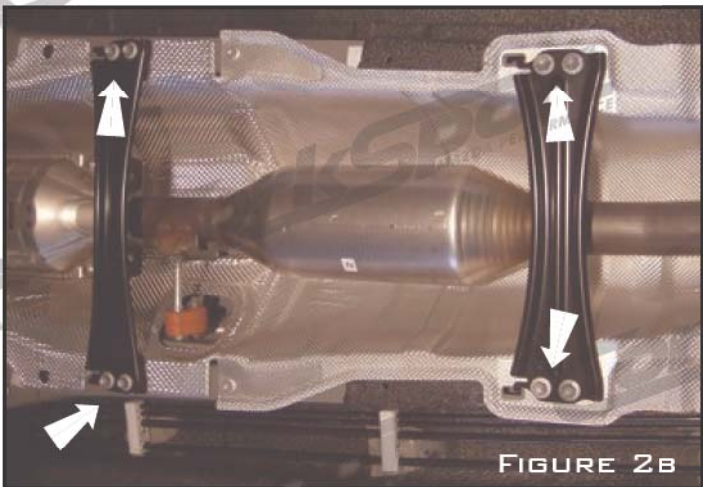

FIGURE 2B
B) USING THE 12MM SOCKET AND RATCHET (OR ALTERNATELY A BATTERY POWERED IMPACT WRENCH), REMOVE THE EIGHT 12MM BOLTS SHOWN IN FIGURE 2B OUT OF THE EXHAUST TUNNEL CHASSIS BRACES. SLIDE THE CROSSMEMBERS FORWARD OFF THEIR HOOKS AND OUT OF THE VEHICLE.